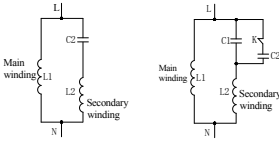

Figure 1
Ordinary single-phase motors are divided into single-capacitor and double-capacitors. Ordinary single-phase generally consists of main winding (L1), secondary winding (L2), running capacitor (C1), starting capacitor (C2), and centrifugal switch (K), as shown in the figure 1: